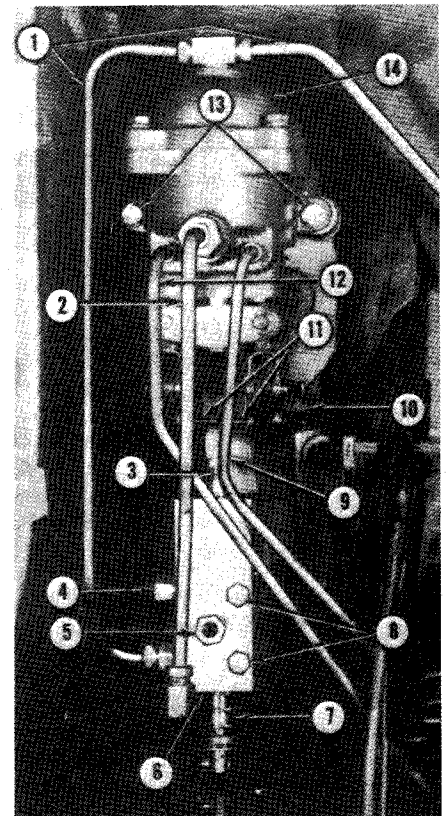

Fig. 183—View of power brake valve and differential lock valve on Model TW-30.
Power to actuate brakes on TW-30 models is provided by the low pressure oil pump. Refer to paragraph 174. Pressurized oil is routed to power brake valve shown in Fig. 183 then to individual rear brakes.
210B. R&R AND OVERHAUL POWER BRAKE VALVE. To remove power brake from tractor, remove oil tubes (2, 9, 12—Fig. 183), valve mounting bolts (13) and rocker arm retaining pin (10). To overhaul valve, remove check valve (13—Fig. 185) and ball (13A) from housing (10). After removing housing cap screws and cap (23), remove rocker arm assembly (1) by removing retaining rings (8) and retaining pins (7). Withdraw spool assembly (11). Heat valve retainers (3) to break Loctite seal and remove retainers using Ford tool No. 7445. Remove valve plungers (4) then force directional valve needles (6) and "O" rings (5) from housing (10) with a small punch.